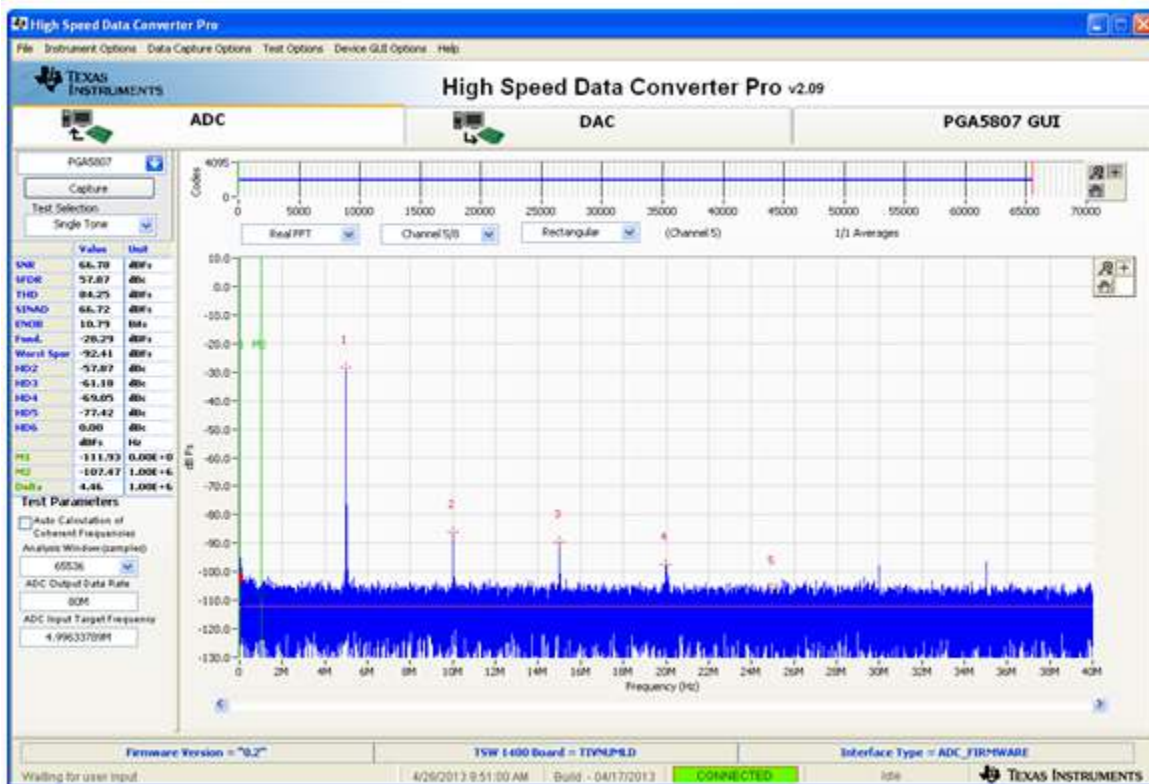

Figure 51. PGA5807A + ADS5296A Gain Test Capture 4
- Click on the *ADC* tab and press the *Capture* button to see the result shown in Figure 51. Again, take the difference in the *Fund.* value shown here to previous capture. This difference should equal the difference in **GAIN[x]** value that was set, or *18dB*.